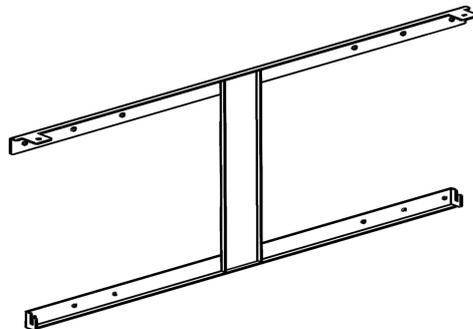

Figure 2
Step 2: Choose a solid and plain wall. Position the mounting bracket where the appliance is to be installed on the wall and ensure that the bracket is level using a spirit level. Using a pen mark the 4 holes through the 4 holes on the mounting bracket as shown below (Figure 2)